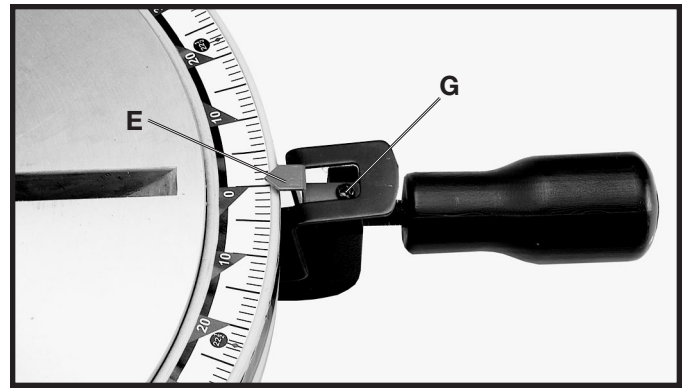

Fig. 17
If it becomes necessary to adjust the pointer (E) Fig. 17, loosen screw (G), adjust the pointer (E) accordingly, and tighten screw.